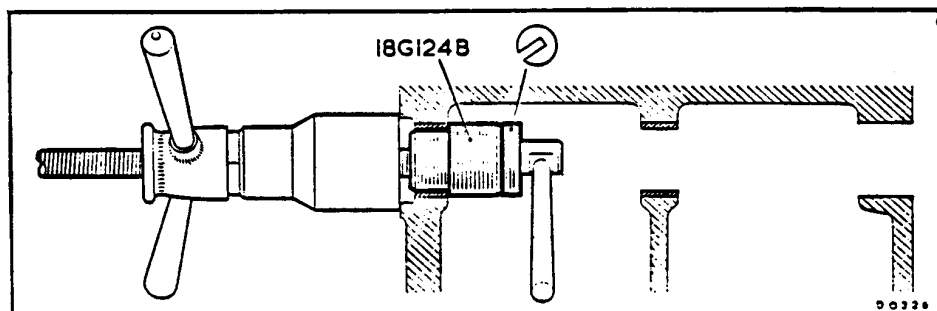

Fig. 2
2. Withdraw the rear bearing liner, using the tools shown in Fig. 2.